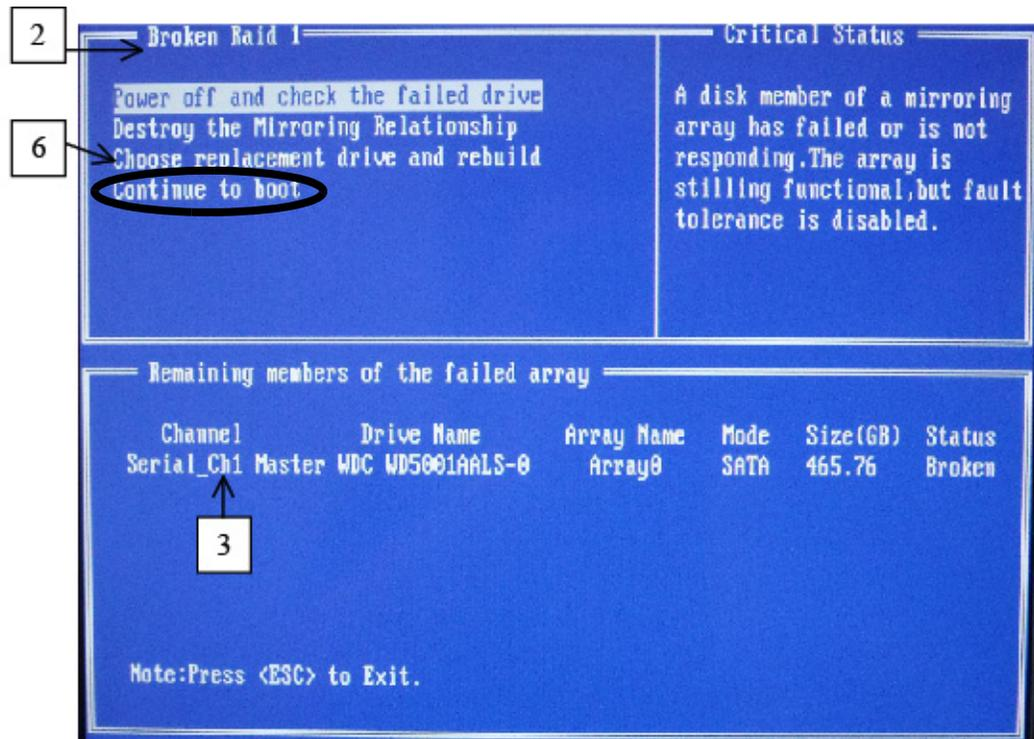

Figure C-2 Broken Raid Message
2. If one of the RAID drives has failed, you will receive a message stating “Broken Raid 1” (# 2 in Figure C-2).
3. Identify the working drive remaining along with its channel (either Ch1 or Ch0). Replace the other channel. If the remaining drive is a mirror of Ch1, then replace the drive labeled "Source Ch0" (# 3 in Figure C-2).
6. The same window as in Figure C-2 appears. Select the option "Choose replacement drive and rebuild" (# 6 in Figure C-2).
2. If one of the RAID drives has failed, you will receive a message stating "Broken Raid 1" (# 2 in Figure C-2).
3. Select "Continue to boot" (# 6 in Figure C-2).